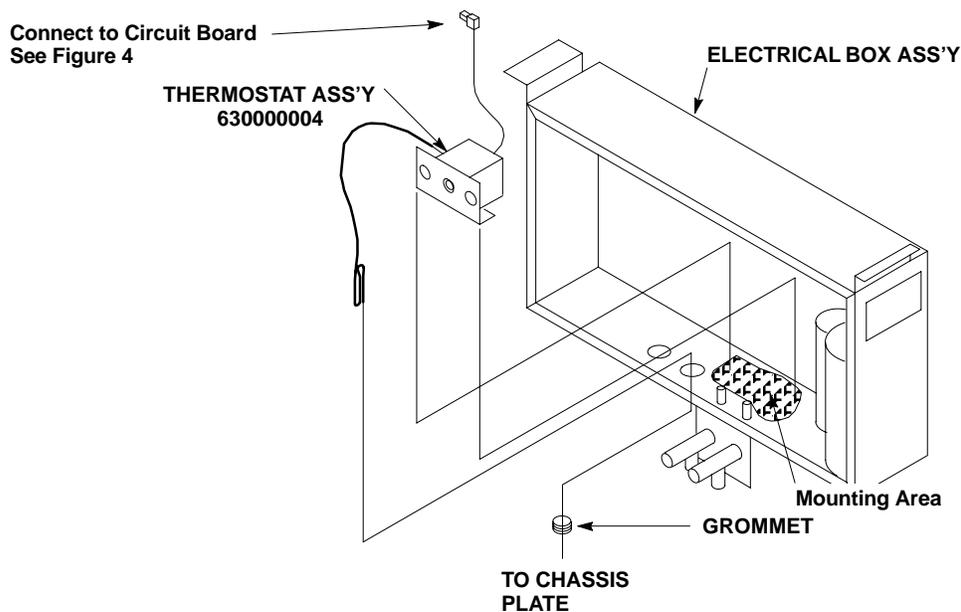

FIGURE 1
3. Carefully unroll the capillary tube. **DO NOT** straighten the "S" curve (crimp) at the very end of the capillary tube. Feed the tube through the hole in the bottom of the electrical box where the electrical wires come through. See FIGURE 1
- A. Clean the mounting area by rubbing briskly with Scotch Brite pad. See FIGURE 1 for the location.
- D. Being sure the bin thermostat is facing the correct direction (see FIGURE 1), affix the thermostat in the electrical box. Press firmly down on the mounting bracket to bind the tape to the electrical box.